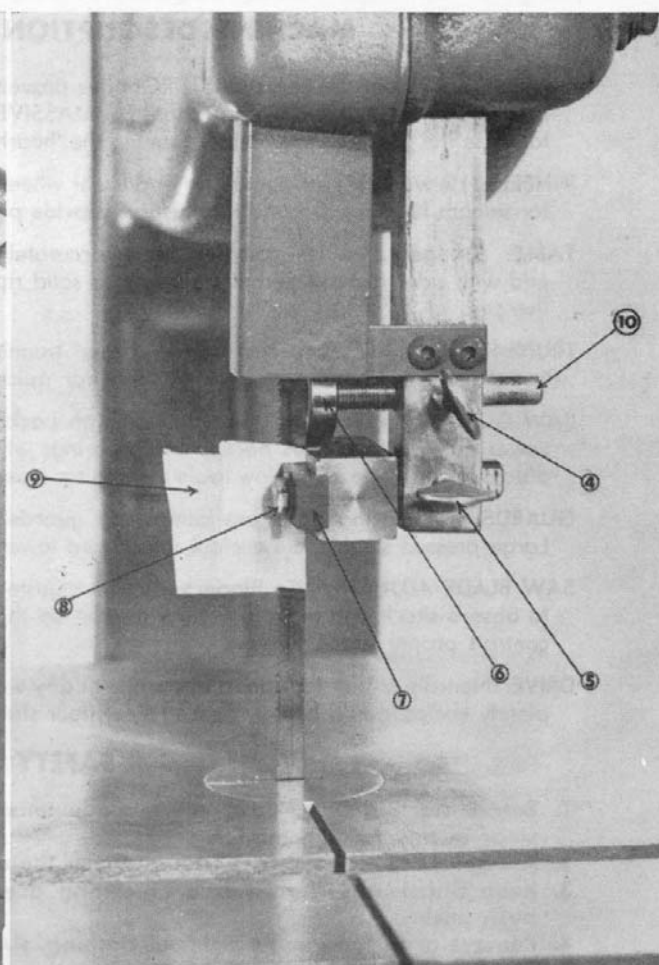

FIGURE 2
WHEEL ALIGNMENT: The band wheels are properly aligned at the factory, and should operate properly. However, in shipping, the original adjustment may have moved, necessitating re-alignment. The lower wheel housing should be adjusted by shimming. Upper wheels are mounted on a pivot and can be positioned by turning set screw (7) fig. 2 to the left or right.
BLADE GUIDE ADJUSTMENT: For proper operation, the saw blade must be supported by an upper and lower saw guide. The lower guide is mounted under the table and the upper guide is mounted on an adjustable bar above the table. The purpose of the band saw guide is to support the blade in cutting circles. It is very important that the guides be set in proper relation to the saw blade. To set the guides to the saw blade, set the tension on the blade and start the saw to check tracking. Set the upper guide as follows: Loosen set screw on the guide blocks (8) fig. 2 and move the blocks until both upper and lower guides clear the blade. Loosen wingnut (5) fig. 2 and move guide holder until the guide edge is just back of the gullet in the saw blade. Loosen wing screw (4) fig. 2 and adjust backup bearing (6) by turning screw (10) fig. 2 until bearing (6) clears the back of the blade 1/64" when band wheel is turned by hand. To adjust side blocks to blade, set the right hand guide block until it just clears the blade and fasten in place with screw (8). Place a thin piece of paper (9) around saw band and push left hand guide block against saw band. Tighten saw guide block. Repeat this process in setting lower guide. The thin paper strip guarantees proper clearance of blade between guides.